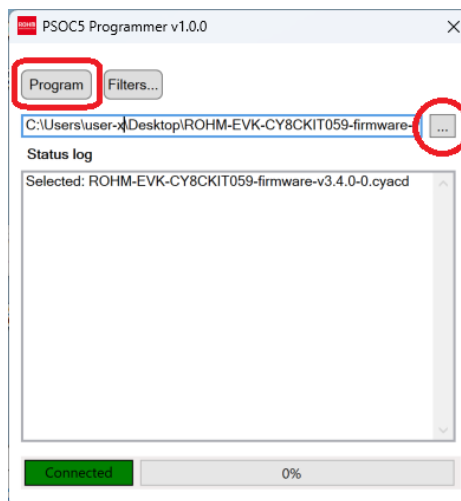

Figure 98: PSOC5 Programmer menu.
3. Choose the correct update file by clicking the '...' button as highlighted in Figure 98.
4. Click the 'Program' button, as also highlighted in the Figure 98.